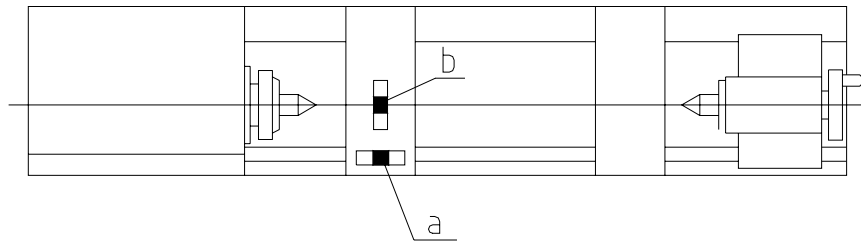

Fig. 4 Leveling of the machine
4.6 Leveling of the machine (See Fig 4)
First move the carriage to the middle of the bed, then set the bed stands by adjusting leveling pads and tightening foot screws so that both ends of the guide ways are at the same level. It is also necessary to rectify the distortion of the bed. So the level gage should be placed as shown in Fig 4. Take the reading in one direction every 250mm. The max. reading should not exceed ± 3 scales with the accuracy of the level gage being 0.02/1000 per scale. At cross position the reading should not exceed 2 scales.